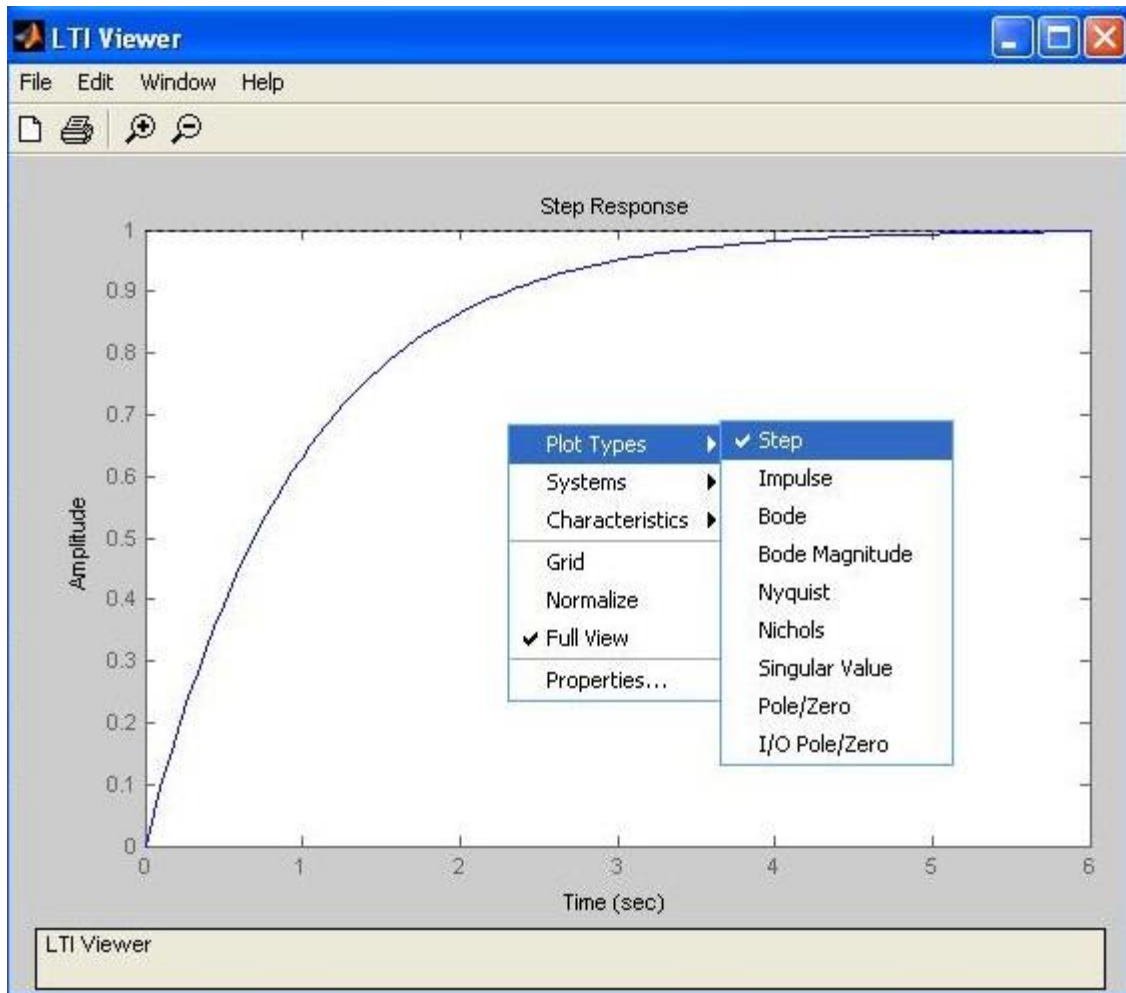

Fig. M5.3
3. **Select LTI transfer functions for the LTI Viewer:** Choose **Import...** under the **File** menu in the **LTI Viewer** window and select all LTI objects whose responses you wish to display in the **LTI Viewer** sometime during your current session. Selecting **G** results in Fig. M5.3.
5. **Select the plot type:** Right-click anywhere in the **LTI Viewer** plot area to produce a pop-up menu. Under **Plot Types**, select the type of plot you want to show in the **LTI Viewer** (Fig. M5.3).